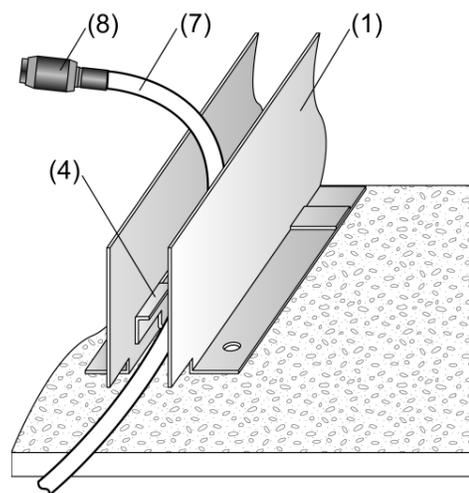

Figure 2
- Lay the connection cable (7) with the connection socket (8) into the frame (Figure 2).